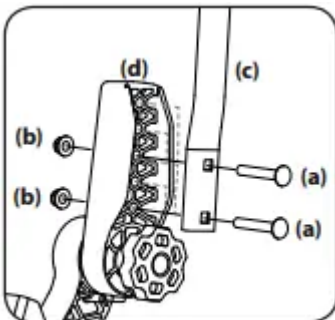

Figure 7
1. Remove the two carriage screws (a) and two flange lock nuts (b) that secure the lapbar drive control lever (c) to the upper handle adjuster (d). See Figure 7. Note: The multi-tool (if equipped) can be used to make this adjustment.
2. Move the lapbar drive control lever into one of the three available heights and secure in place with the carriage screws and flange lock nuts. See Figure 7.